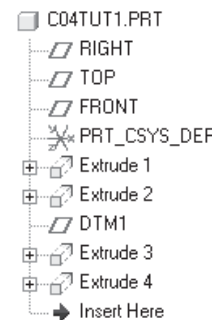

Figure 4-73 The Model Tree for Tutorial 1
1. Choose the **Save the active object** button from the **File** toolbar and save the model. The order of feature creation can be seen from the **Model Tree** shown in Figure 4-73.